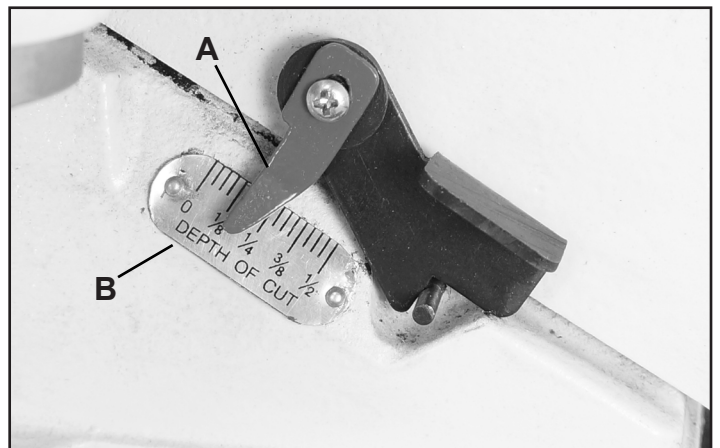

FIG. 22
The jointer can be set to cut any depth from a very thin shaving to 1/8" deep. The pointer (A) on the scale (B) is to indicate the depth of cut. FIG. 22.